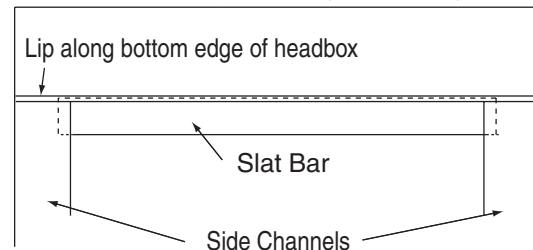

Figure 10
- ⑩ Adjust limit switches so the fabric can be completely drawn or retracted without the slat bar leading edge going beyond the plastic fabric guides located at the upper end of each side channel (see Fig. 10). Limit switches are pre-set, but some field adjustment may be necessary.